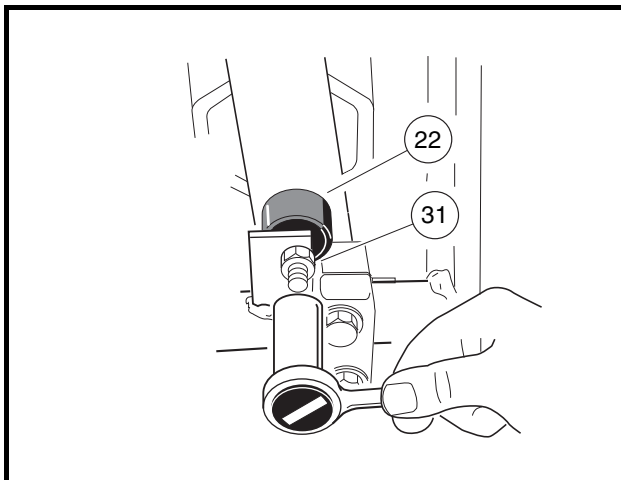
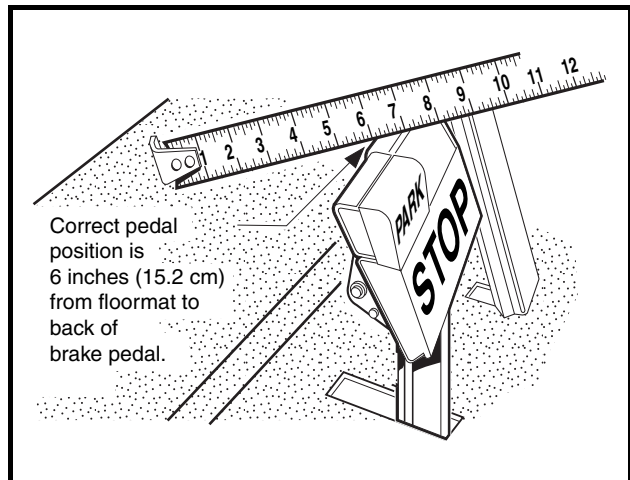

Figure 5-11 Brake Pedal Height Adjustment
Figure 5-12 Brake Pedal Height Measurement
- 2.4. Loosen the brake stop jam nut (31), then relieve pedal pressure on the stop by pushing down slightly on the pedal. Next, adjust the brake stop bumper (22) up or down (**Figure 5-11, Page 5-12**). Adjusting the bumper upward decreases distance between pedal and floorboard. Adjusting the bumper downward increases distance between pedal and floorboard. Proper brake pedal height is 6 inches (15.2 cm) (**Figure 5-12, Page 5-12**).
- 2.5. Tighten the jam nut (31) to 8 ft-lb (9.5 N-m) (**Figure 5-11, Page 5-12**).